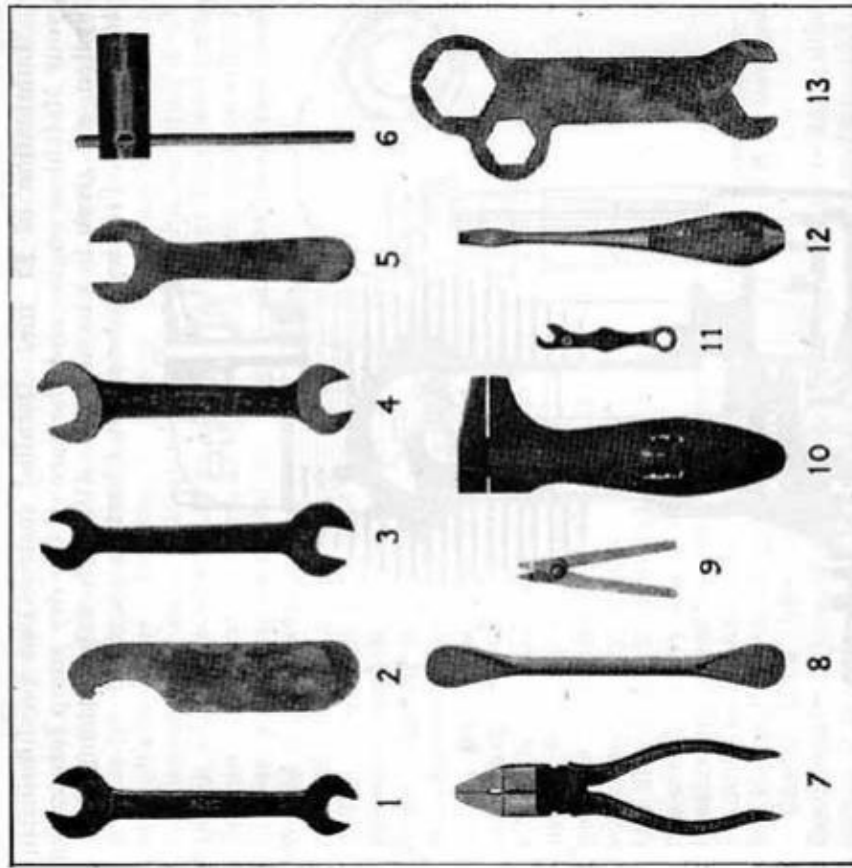

FIG. 54. THE 350 c.c., 500 c.v. MATCHLESS TOOL KIT
To make an eccentric adjustment for chain tension, first slacken the strap bolt clamping the dynamo in its housing. Then apply the spanner, shown at (5) in Fig. 54, to the flats cast on the dynamo end-plate, which is on the left-hand side of the dynamo.
Tools for the Job. The Matchless tool kit, shown in Fig. 54, is adequate for any normal stripping down and assembly job and should prove sufficient for routine maintenance and overhaul. As may be seen in Fig. 54, thirteen serviceable tools are provided, not, of course, taking into account the grease-gun shown separately in Fig. 26. It is also necessary to obtain a suitable feeler gauge for checking the sparking plug gap (see page 59) and it is desirable to obtain a plug dismantling tool (see page 61), (except where Champion plugs are used); and a wire-brush type plug cleaner (see page 60).
5. Removing Piston. To remove the full-floating gudgeon-pin, it is only necessary to extract *one* circlip with the special pliers shown at (9) in Fig. 54. Push the gudgeon-pin out from the